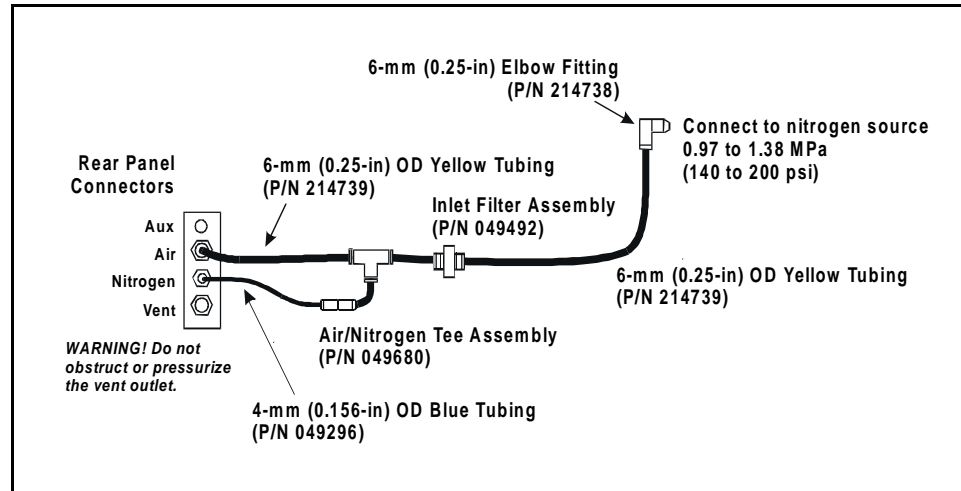

Figure B-2. Connections for Substituting Nitrogen for Air
1. Connect the yellow 6-mm (0.25-in) OD tubing end of the tee assembly to the **AIR** connector on the ASE 300 rear panel (see Figure B-2).